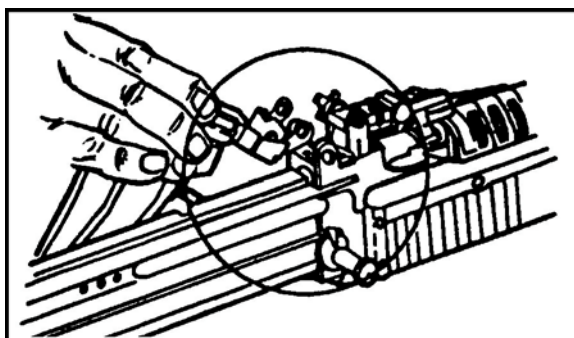

Figure 10. Feed tray and hanger group.
- (3) Push the hinge pin out of its recess and remove it from the opposite side of the hinge pin latch.
- (4) Lift the feed cover from the receiver assembly.
- (5) Remove the feed cover spring from the cover.
- b. Lift the feed tray and hanger group from the receiver assembly (Figure 10).